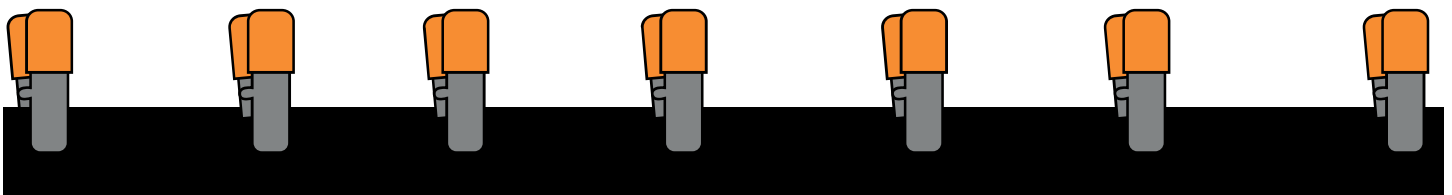

Figure 5
Step 8: Clamp the rubber down onto tracks with spring clamps or C clamps every 10-12". Place a piece of paper (provided) between the clamp and the rubber. This will prevent the clamp getting accidentally glued to the rubber. We have found that adding machine paper is an ideal width for this. See figure 5.